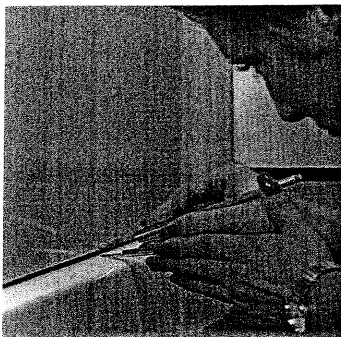

Figure 2
*If the gap is 1/8-inch or wider* at any point, you'll need to scribe the panel to the shower base with your compass. See figure 2. But don't trim it yet!